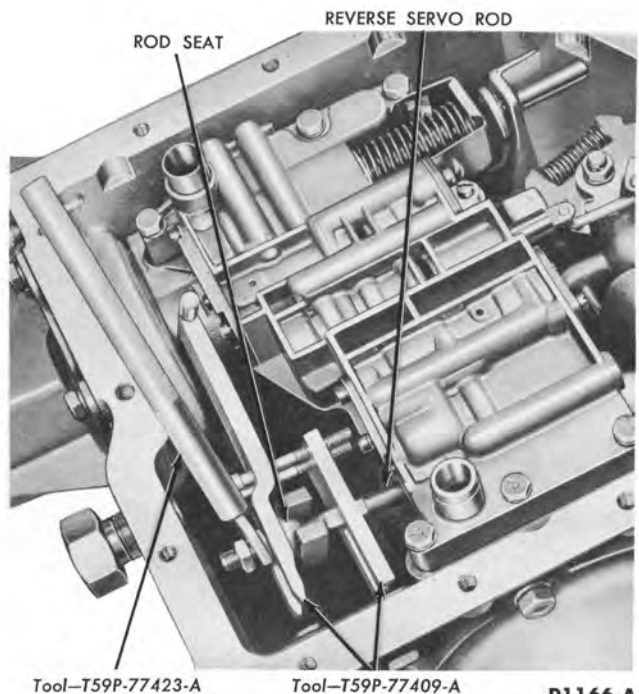

FIG. 7—Reverse Band Adjustment
3. Loosen the rear servo piston rod locknut and adjusting nut (Fig. 7).
5. Back off the piston rod locknut so that the wrench shown in Fig. 7 can engage the adjusting nut. Tighten the adjusting nut until the wrench is felt and heard to click and overrun. This tool is a pre-set torque wrench which clicks and overruns when 45-50 in-lbs torque is applied to the adjusting nut.